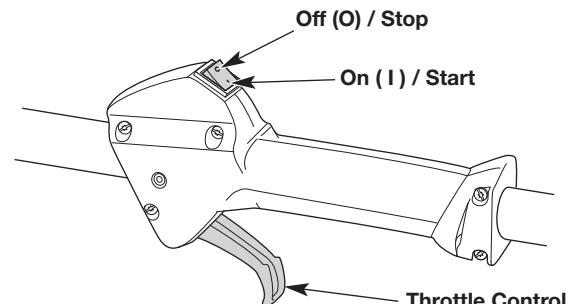

Fig. 4
- NOTE:** There is no need to turn the unit on. The On/Off switch is in the ON (I) position at all times (Fig. 4).
6. Squeeze the throttle control (Fig. 4) and pull the starter rope with a controlled and steady motion **5 times** (Fig. 6).
2. Press and hold the On/Off switch in the OFF (O) position until the engine comes to a complete stop (Fig. 4).